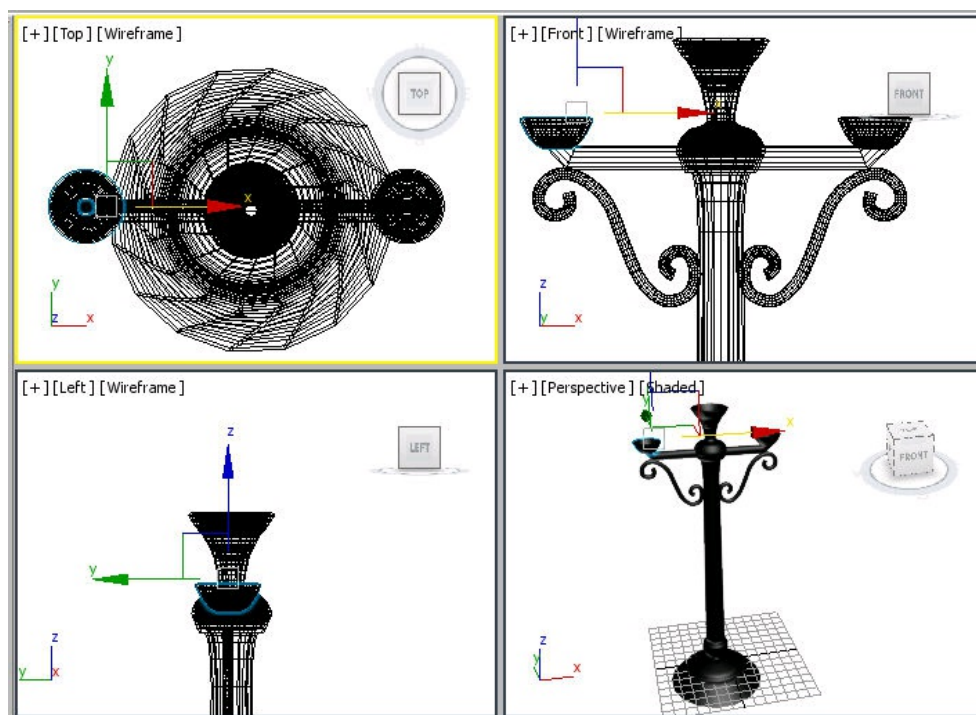

Figure 6-66 The base02 aligned in the viewports
4. Create a copy of *base01* with the name *base02* and align it in the viewports, as shown in Figure 6-66.